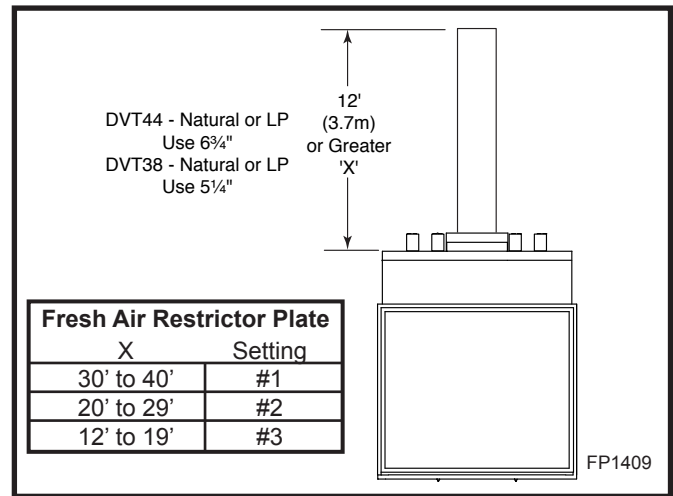
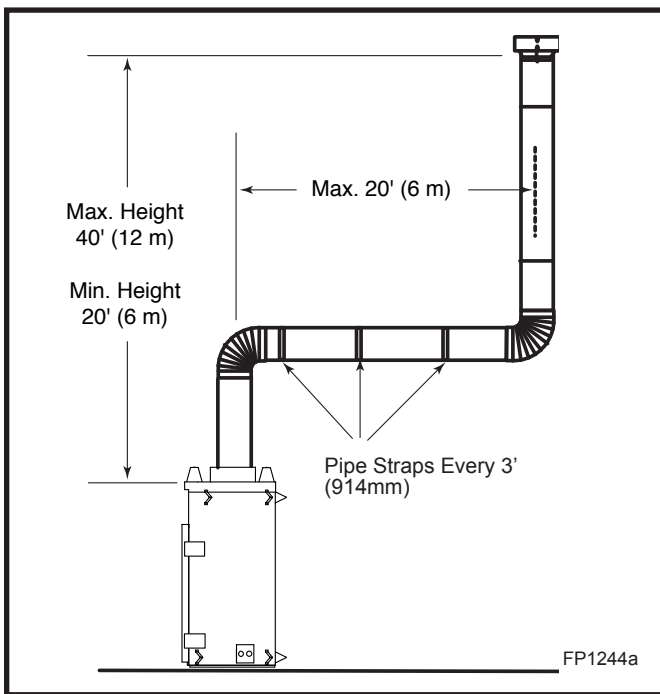
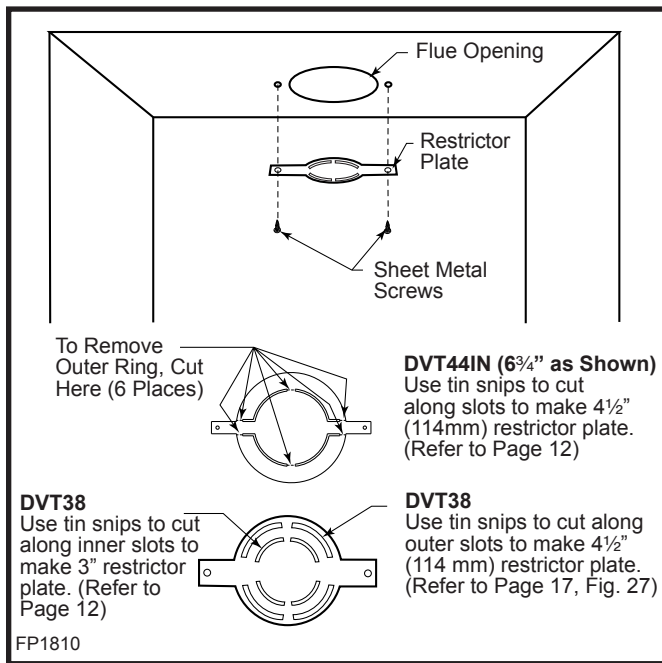

Fig. 26 Restrictor plate use in straight up installation.
Fig. 28 Support straps for horizontal runs.
Fig. 35 Restrictor plate location.
A vertical vent system must terminate no less than 12' (3.66 m) and no more than 40' (12 m) above the appliance flue collar. A 2' (610 mm) vertical section must be installed before any offset. A maximum of 20' (6.1 m) horizontal and three (3) 90° elbows may be installed with a minimum of 12' (3.66 m) vertical section above the flue collar of the unit. Refer to Page 21, Figure 26 for more information.
For vertically venting either propane or natural gas units, with vertical vent heights of 12' (3.7 m) or greater, (measured from the top of the flue collar) the restrictor plate as supplied with this unit should be used. (Fig. 26) Also, the fresh air restrictor plate could be adjusted according to your vent height. (Fig. 26) Refer to Pages 25 & 26, Figures 35 & 37 for restrictor plate installation and fresh air restrictor plate adjustment.
For vertical venting configurations that include a minimum vertical rise of 12' (3.7 m) and a maximum horizontal offset of 10' (3 m) the 4½" restrictor plate supplied with this unit should be used. The fresh air restrictor plate could be adjusted to the setting #3 (**DVT44IN Only**). (Fig. 28) Refer to Pages 25 & 26, Figures 35 & 37 for restrictor plate installation and fresh air restrictor plate adjustment.
- Vertical installations up to 40' (12 m) in height. Up to a 20' (6 m) horizontal vent run can be installed within the vent system using a maximum of three (3) 90° elbows. (Fig. 28)
- A 2' (610 mm) vertical section must be installed before any offset. A maximum of 20' (6.1 m) horizontal and three (3) 90° elbows may be installed with a minimum of 12' (3.66 m) vertical section above the flue collar of the unit. (Fig. 28)
Using the two (2) screws provided along with the restrictor plate shipped with the logset, fasten the restrictor plate to the firebox top through the front of the unit. (Fig. 35)